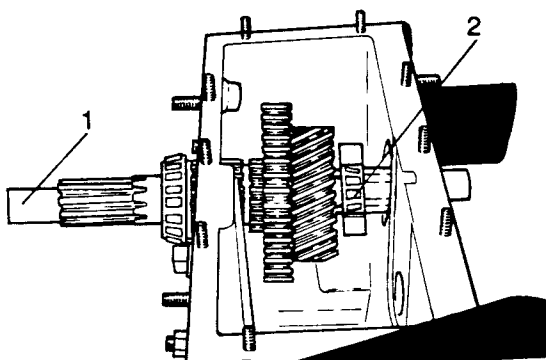

Fig H2.16
- (3) Refer to Fig H2.16. Fit special tool 243241 (1) over the threaded portion of the output shaft.
- (4) Slide the shaft backwards and between the outer track and the front bearing a second outer track (2) (used one) must be fitted, which has been cut away so that through this the shaft can pass, and slide easily into its housing.